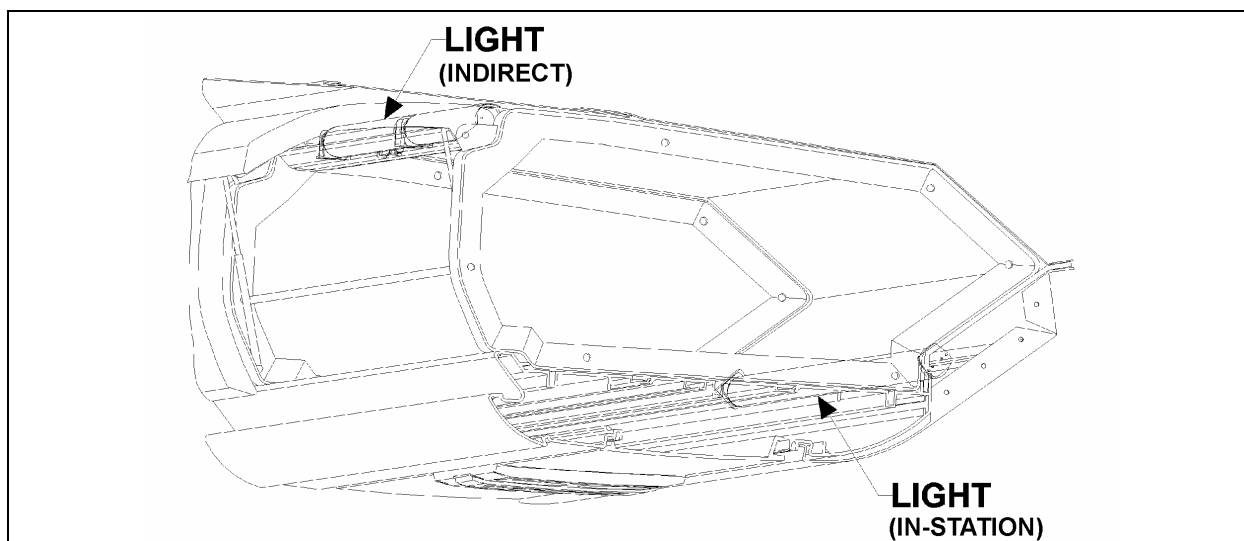

FIGURE 52: PARCEL RACK
4. Lift the hinged cover and replace the two retaining screws (Fig. 52).